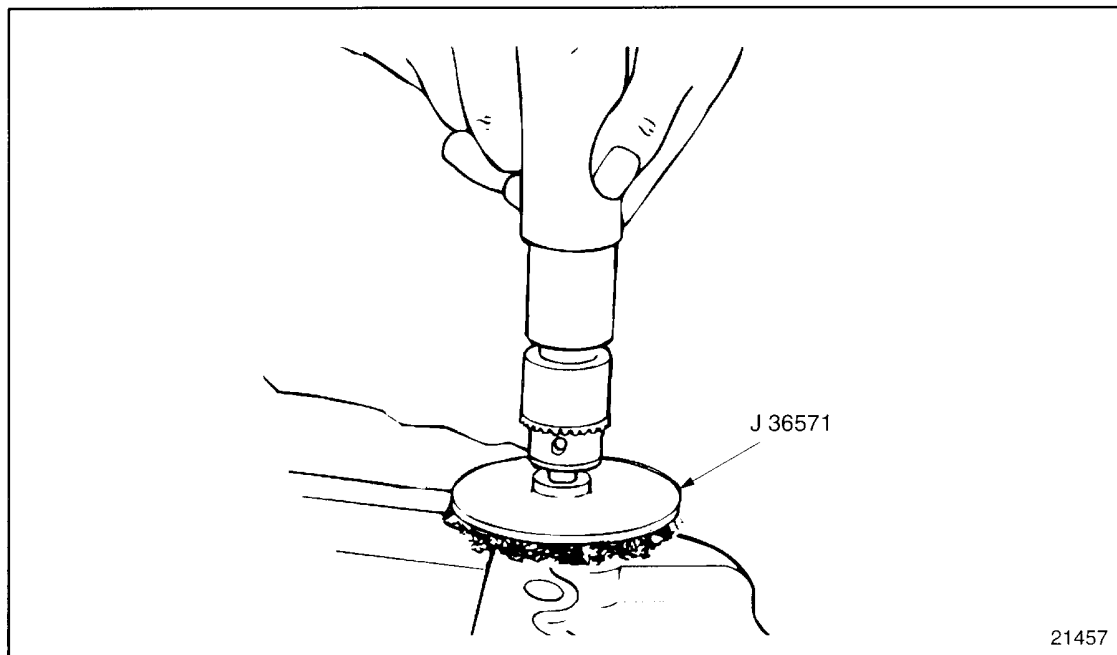

Figure 6-7 Cleaning the Manifold
2. To clean the intake manifold mating surface and the head port area, use the surface conditioning set J 36571. See Figure 6-7.